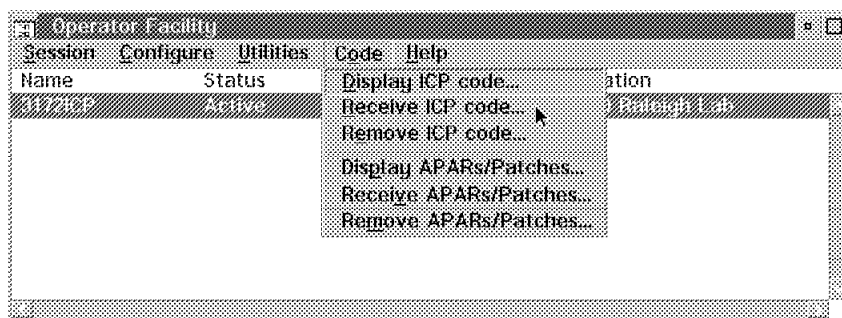

Figure 30. Selecting Receive ICP Code
Step 1. Insert **ICP Base Diskette 1** into the operator station diskette drive (A).
Step 3. Select **Code** from the action bar and select **Receive ICP code** as shown in Figure 30.
- Step 9. Select **Code** from the action bar and select **Receive ICP code** as shown in Figure 30 on page 67.